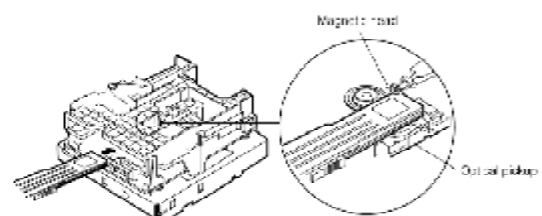

Fig.9
5. Position the sensor of the laser power meter directly above the optical pickup. (Refer to Fig.9.)